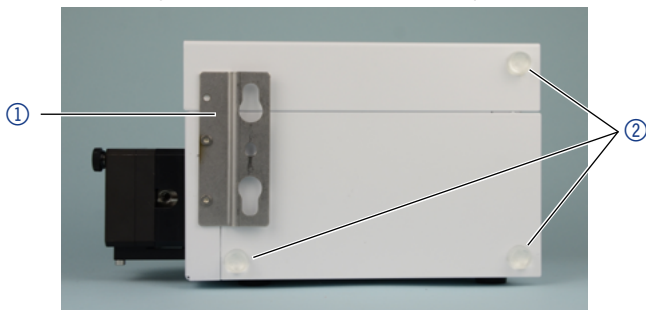

Fig. 22 AZURA® small device with mounting bracket ① and rubber spacers ② (exemplary picture with UVD 2.1S)
- Put the upper keyhole of the mounting bracket onto the washer at the AZURA® L device (Fig. 22) and slide the valve drive down until the middle hole locks with the lower screw of the guidance clamp (Fig. 23).